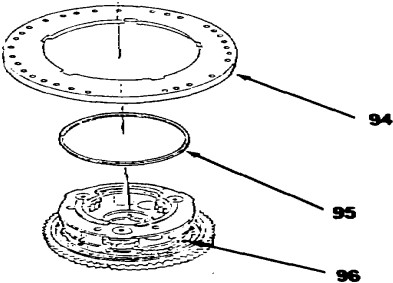

Figure 14-66.
- 47. Remove plate (94, Figure 14-66).
- 48. Using punch and hammer, position three pins (96) and remove ring (95).